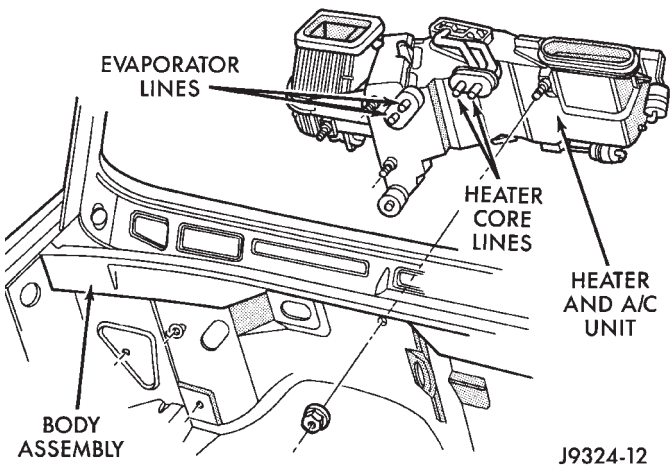
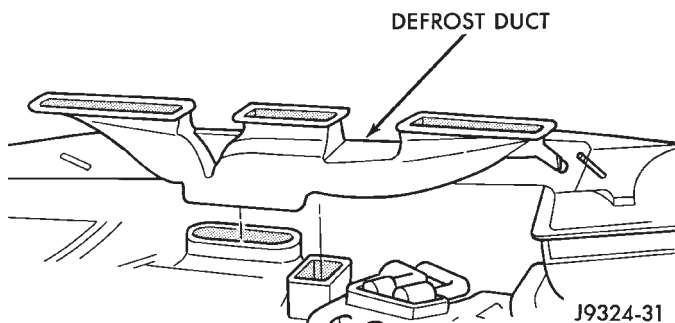

Fig. 8 Heater-A/C Unit (Shown from Engine Compartment)
Fig. 11 Defrost Duct
- (1) Disconnect the negative cable from the battery.
- (2) Discharge the A/C system into a recovery/recycle device (refer to Refrigerant Service Procedures).
- (3) Disconnect the A/C hoses from the evaporator lines (Fig. 8).
- (4) Drain the cooling system (refer to Group 7, Cooling System).
- (5) Disconnect the heater hoses from the heater core lines (Fig. 8).
- (8) Remove the attaching nuts from the studs on the engine compartment side of the dash panel (Fig. 8).
(9) Remove the instrument panel (refer to Group 23, Body).
(10) Remove the defrost duct (Fig. 11).
(3) Install the attaching nuts on the engine compartment side of the dash panel (Fig. 8). Tighten the nuts to 7 N•m (60 in. lbs.) torque.